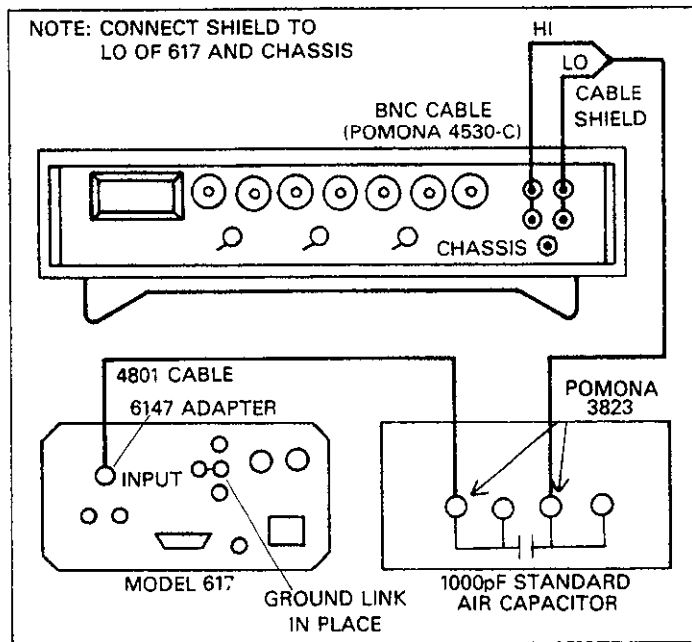

Figure 7-6. Connections for Coulombs Verification
1. Set the DC calibrator output to 0V and connect the calibrator and the 1000pF, 0.1% standard capacitor to the instrument, as shown in Figure 7-6.